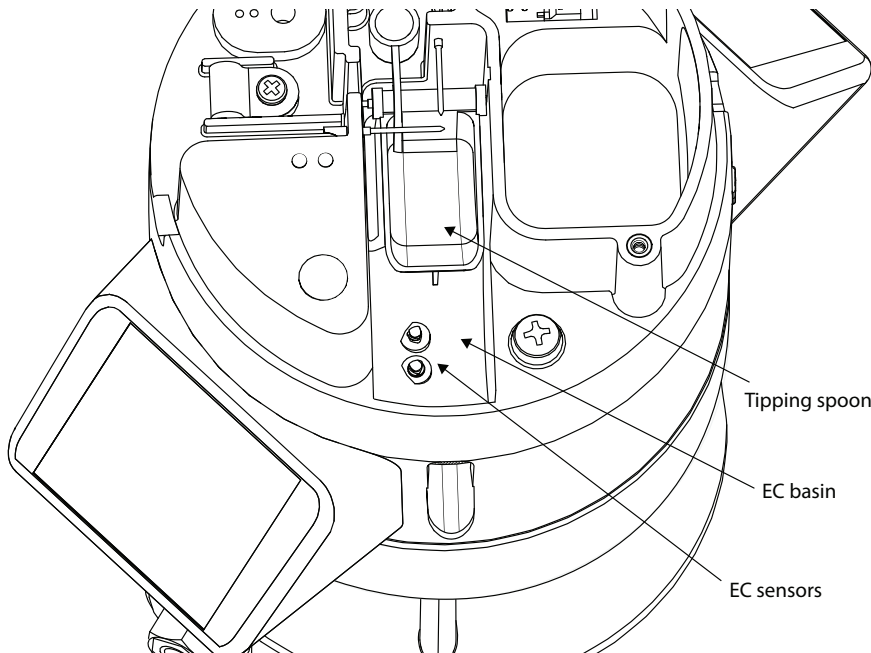

Figure 41 EC basin and EC sensor
- Locate the tipping spoon, precipitation basin, and EC Sensor (Figure 41).
Avoid more than light pressure while cleaning the tipping spoon (Figure 41 EC basin and EC sensor on page 65) and the sonic transducers (Figure 30)